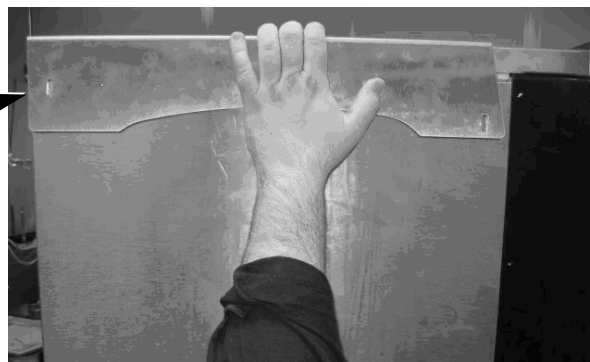

Figure 13
2. Position bracket with the straight edge towards the rear of the unit, as shown in Figure 13. Also, the flange of the bracket must be over the adapter lid, as shown in Figure 4.